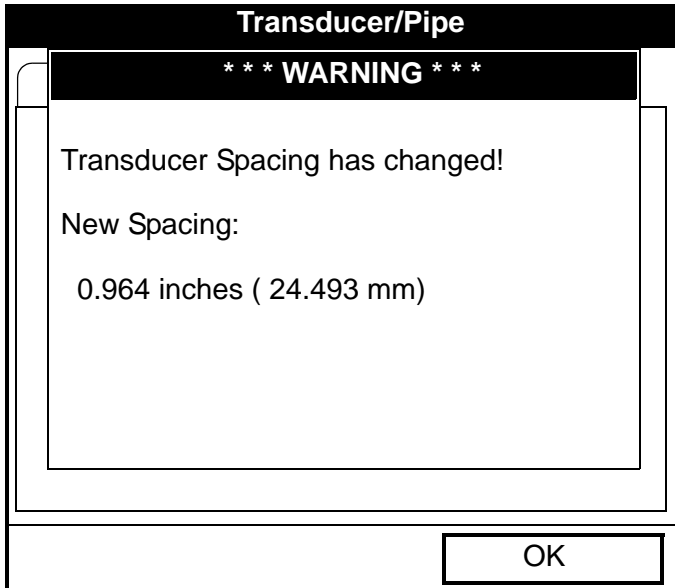

Figure 14: Transducer Spacing Change Window
Note: *When the corrected information is entered, a message similar to Figure 14 appears. Press [F3] (OK).*